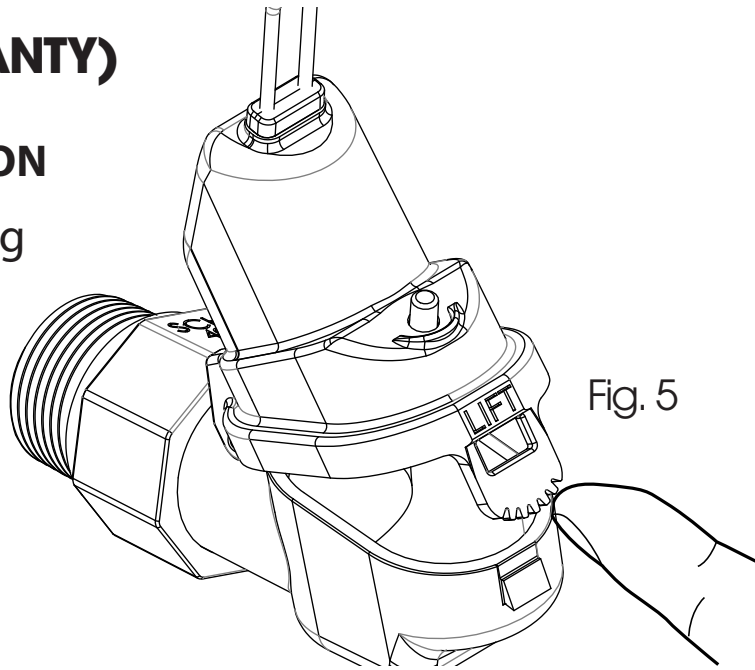

Fig. 5
- a. Open the cap by pulling outward and upward on the lift tab (See Fig. 5).